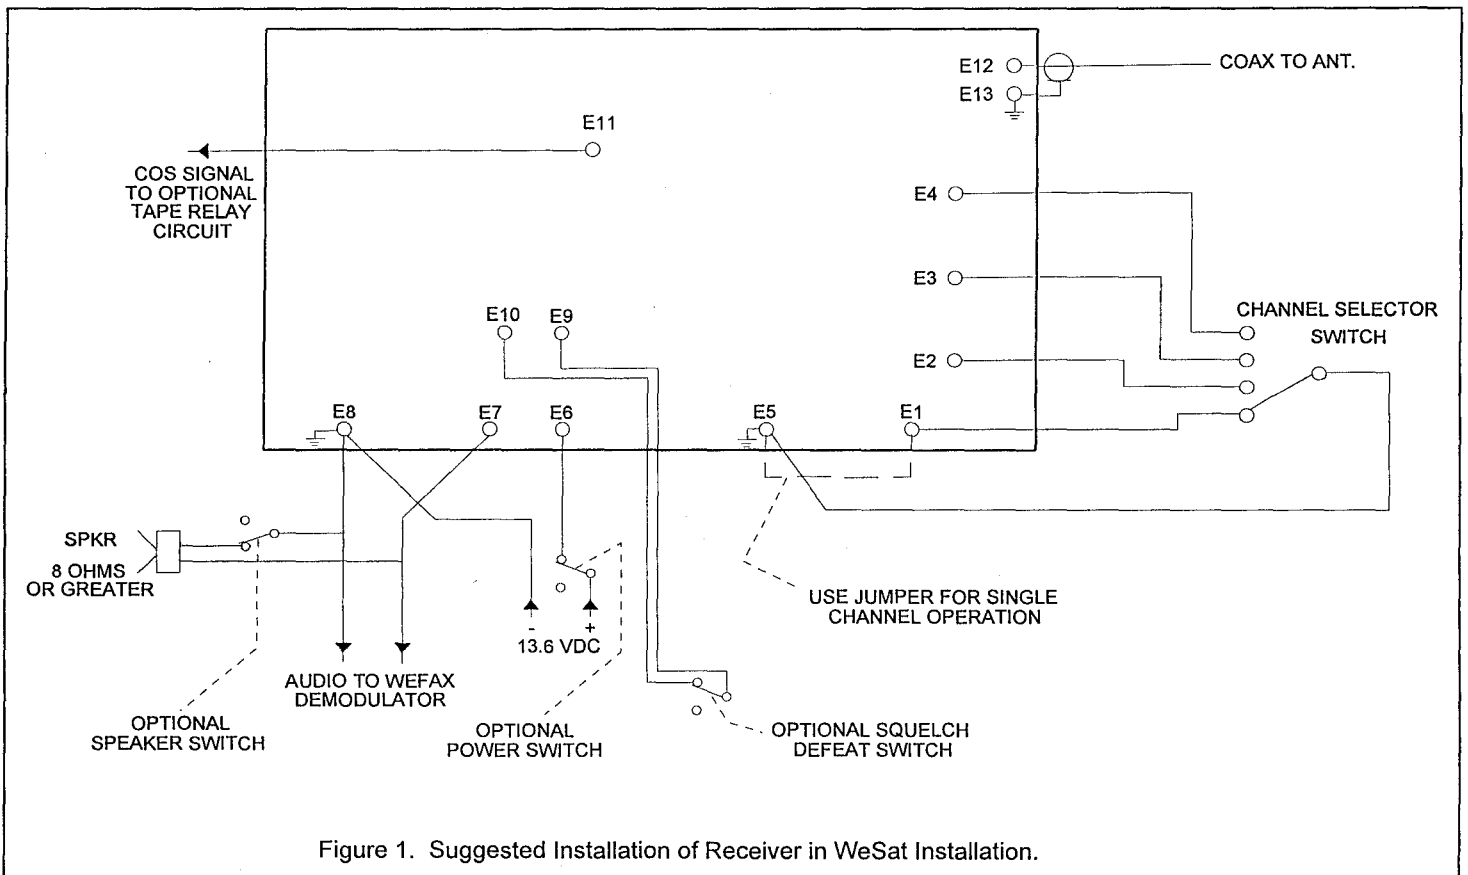

Figure 1. Suggested Installation of Receiver in WeSat Installation.
Following is general information about uses for the various connections. Figure 1 shows a typical installation, but your installation may vary from this. More detailed information on use of these terminals follows later, after alignment.
There are four channel oscillators on the receiver, allowing for selection of various satellite frequencies. If you only want to use one frequency, simply connect a jumper from ground pad E5 to channel 1 pad E1 in order to activate that oscillator circuit. However, if you want to be able to switch between up to four channels, you can provide a front panel rotary switch to switch the ground from E5 to any of the four channel oscillator activation pads, E1-E4, as shown in figure 1.
b. Connect 13.6 Vdc power supply to E6 (+) and E8 (-), as shown in fig. 1.
i. If a channel selector switch has been installed, set it to channel 1. If the receiver is set up to use on only one channel, there should be a jumper installed between E1 and E5, as shown in figure 1. If you will be using more than one channel, but you have not yet installed a switch, simply connect a clip lead to the appropriate control terminal, E1-E4, to ground it for testing. For testing, it is convenient to clip to the resistor lead adjacent to the terminal pad.
l. If a channel selector switch has been installed, set it to the channel to be used for rf alignment, usually the frequency closest to the center of the range of channels to be used. For example, if the lowest frequency is 137.300 and the highest is 137.850, do alignment at 137.620 or 137.500. If the receiver is set up to use on only one channel, there should be a jumper installed between E1 and E5, as shown in figure 1. If you will be using more than one channel, but you have not yet installed a switch, simply connect a clip lead to the appropriate control terminal, E1-E4, to ground it for testing. For testing, it is convenient to clip to the resistor lead adjacent to the terminal pad.
the receiver, allowing for selection of various satellites. If you only want to use one frequency, simply connect a jumper from ground pad E5 to channel 1 pad E1 in order to activate that oscillator circuit. However, if you want to be able to switch between up to four channels, you can provide a front panel rotary switch to switch the ground from E5 to any of the four channel oscillator activation pads, E1-E4, as shown in figure 1.